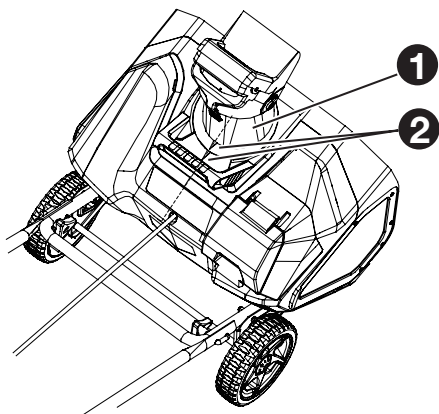

Fig. 4.1
- Position the discharge chute (1) so that it faces forward.
*NOTE: Align the arrow (2) on the discharge chute with the arrow on the housing. (Fig. 4.1)*